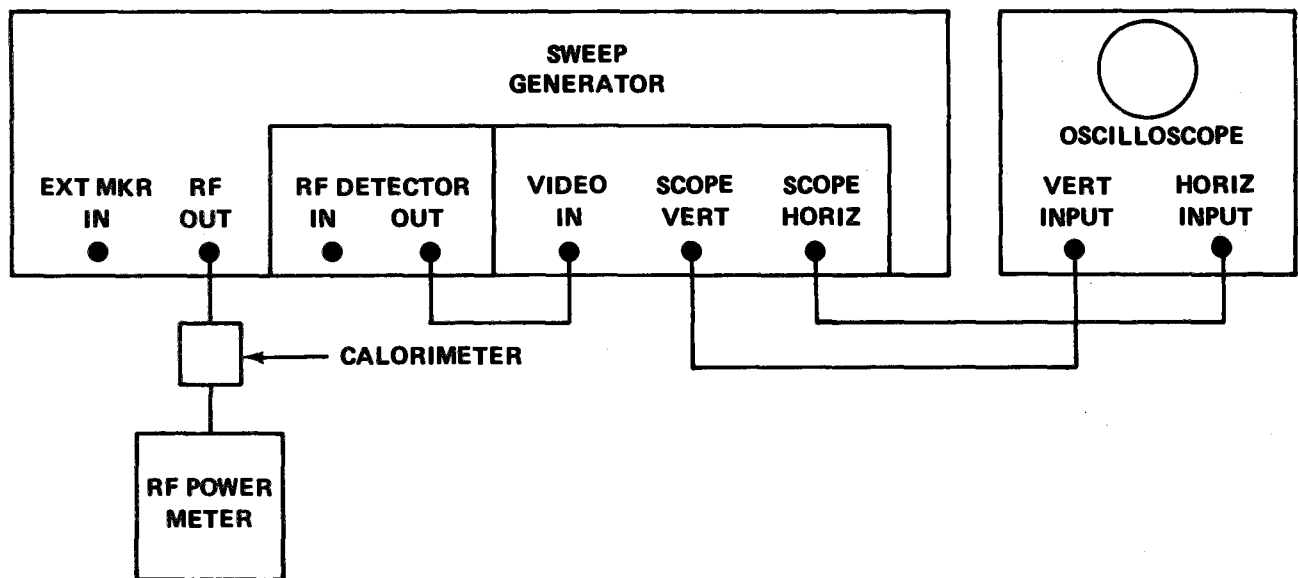

Figure 4-12. Adjustment Connections (RF Output Meter-Leveler Circuit)
- c. Using RF POWER METER as shown in figure 4-12, monitor RF power level at front panel RF OUT connector. It should be approximately 6 mW.